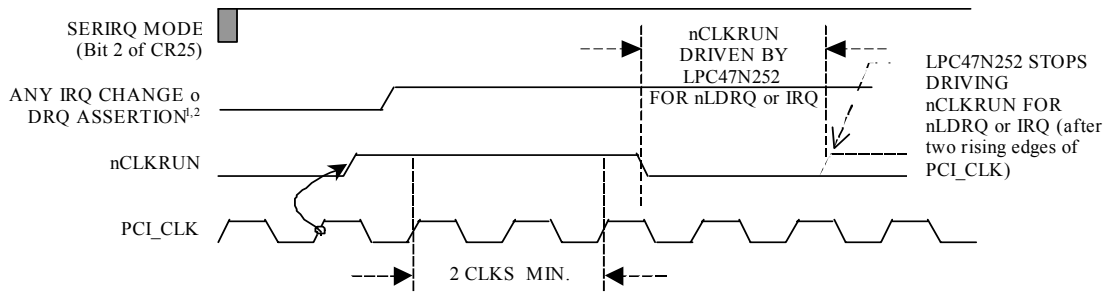

Figure 24.2 Clock Start Illustration
If a device in the LPC47N350 asserts or de-asserts an interrupt and CLKRUN# is sampled "high", the LPC47N350 can request the restoration of the clock by asserting the CLKRUN# signal asynchronously (Table 24.1). The LPC47N350 holds CLKRUN# low until it detects two rising edges of the clock. After the second clock edge, the LPC47N350 must disable the open drain driver (Figure 24.2).
The LPC47N350 must not assert CLKRUN# unless the line has been deasserted for two successive clocks; i.e., before the clock was stopped (Figure 24.2).
2. The LPC47N350 must continually monitor the state of CLKRUN# to maintain the PCI Clock until an active “any IRQ change” condition has been transferred to the host in a Serial IRQ cycle. For example, if “any IRQ change or DRQ assertion” is asserted before CLKRUN# is de-asserted (not shown in Figure 24.2), the LPC47N350 must assert CLKRUN# as needed until the Serial IRQ cycle has completed.